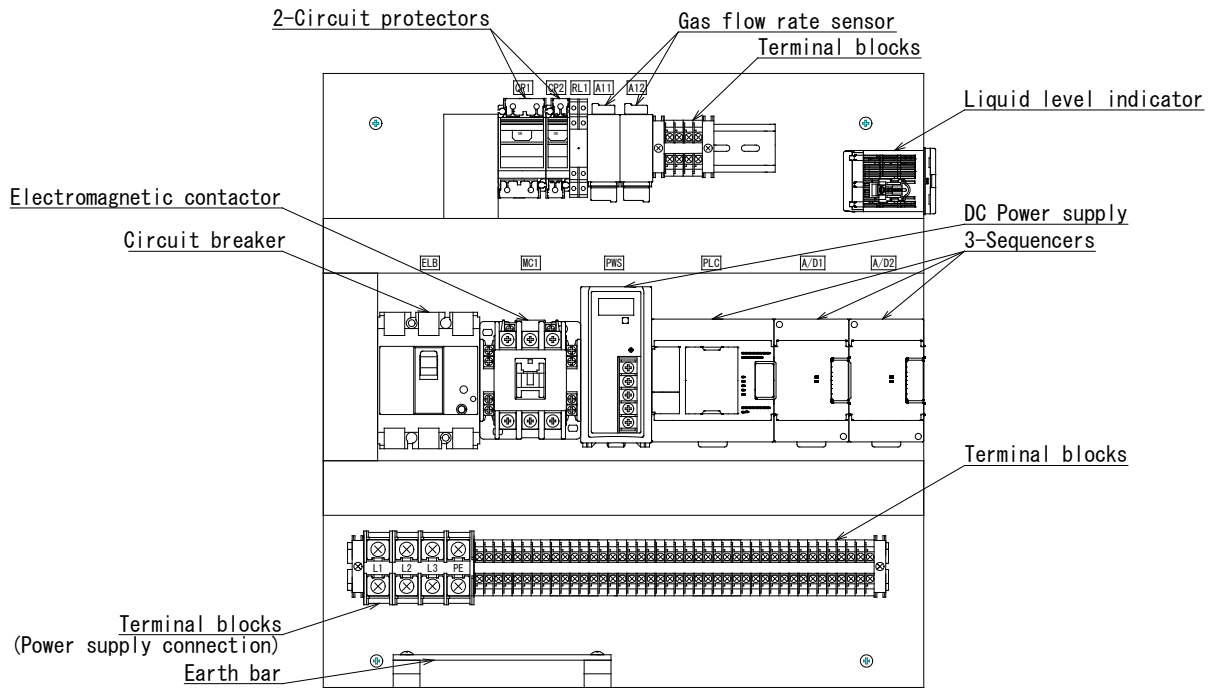

Figure 4-3 Electrical circuit
4.2 Inside view of UMP-40W front door and lower panel (Figure 4-3
4.3 UMP-40W Electrical circuit (Figure 4-3) 9
4.3 UMP-40W Electrical circuit (Figure 4-3)